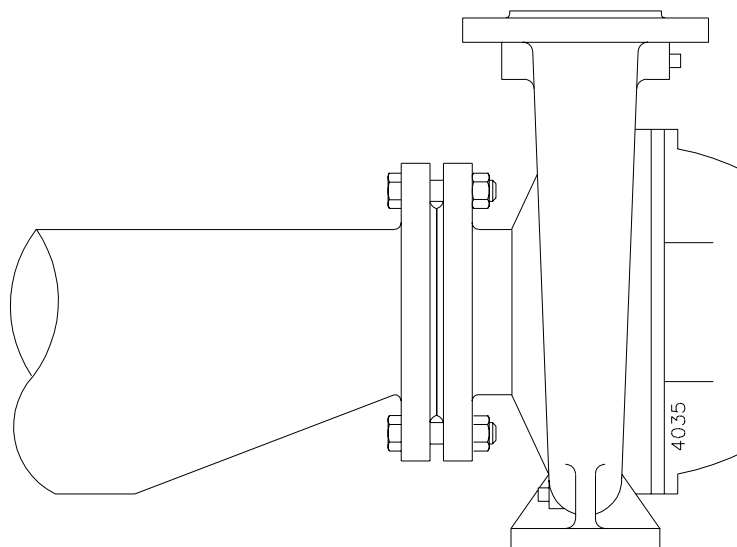

figure 15 *Excentric reducer to suction flange.*
- The passage of the suction pipe must be amply dimensioned. This pipe should be as short as possible and run towards the pump in such a way that no air pockets can arise. If this is not possible, a venting facility should be provided at the highest point of the pipe. If the inside diameter of the suction pipe is larger than the suction connection of the pump, an eccentric reducer should be applied to prevent air pockets and whirls. See figure 15.